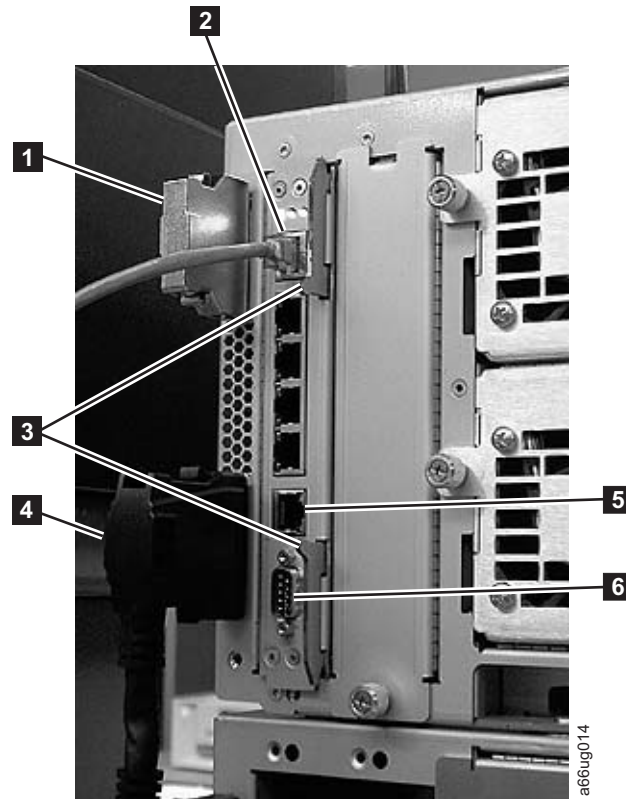

Figure 12-30. Library Control Blade (LCB)
2. Grasp the pair of latches near the top and bottom of the LCB (**3** in Figure 12-30 on page 12-33) by pushing them in until they click into place.
3. Reconnect the ethernet cable (**2** in Figure 12-30) by pinching the tab and pushing the connector into the LCB.
Note: Six slots reside below the ethernet cable. The four topmost slots can access tape drive ethernet connectivity directly with the library control blade. The two bottommost slots are designated as ethernet (**5** in Figure 12-30) and serial (**6** in Figure 12-30) ports, and are reserved for use by IBM service personnel.